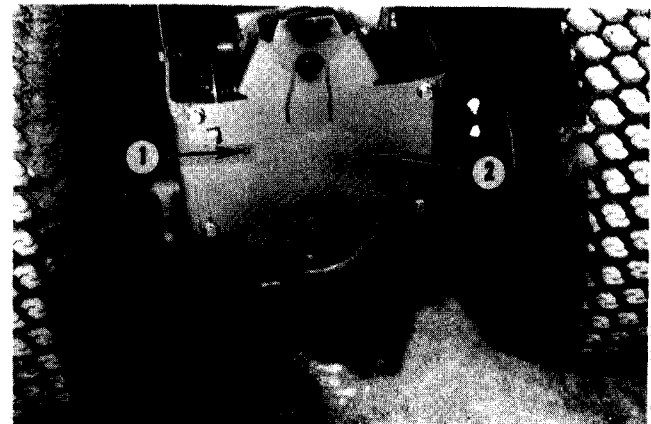

FIG. 4.33-REAR PTO COVER
8. Remove four bolts securing plate or PTO belt cover, if equipped with PTO to tractor frame, Fig. 4.33.
7. Install rear plate or belt cover to rear of frame. If belt cover be sure belt guide in cover is on outside of belts. Fig. 4.33.